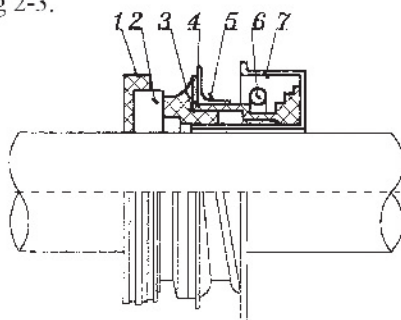

Fig 2-3 Structure diagram of machinery seal.
5.When change machinery seal,be sure to apply adhesive to the connection between steel part “#7” and pump cover. When fixed it, do not hit by force to prevent wear slice fracture. Please see Fig 2-3.